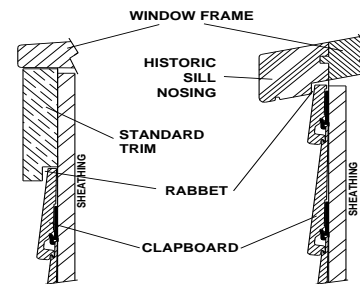

Fig. 7
If Clapboard material must be removed for the top course, use a rabbeted trimboard to hold the clapboard in place (see Fig. 7). Never face-nail clapboard.
**Bottoms of windows and fascias** must be trimmed with a rabbeted trimboard or sill (see Fig. 7). The function of this rabbet is to hold the top edge of the clapboard, prevent the course from lifting out of the tongue and groove, and allowing the clapboard to expand and contract without restriction. Never pin the clapboard (e.g. never face-nail, never caulk). Leave a minimum of 1/2" clearance between clapboard ends and any fixed vertical surface. In the case of historical sill treatment, the sill, in addition to the retention rabbet (see Fig. 7) must be rabbeted at the ends to allow the clapboard to expand and contract without restriction.